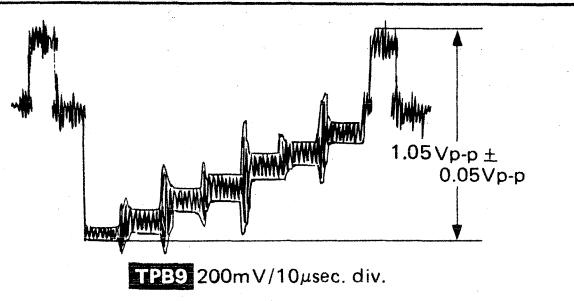

Fig. 5
4. Adjust R324 (Y-Level) so that the **TPB9** becomes  $1.05\text{Vp-p} \pm 0.05\text{Vp-p}$  as shown in Fig. 5.